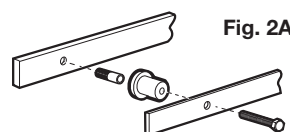

Figure 2A
Drill pilot hole. Insert lag bolt (X) through the first track hole, then place the track spacer (S) through the bolt on back of the track. Install the lag bolt with ½" socket ratchet. Do not tighten fully. Swing the track up and use the level to ensure the track is straight. Mark the remaining holes in the track. Drill remaining pilot holes. At the other end of the track from where you installed your first bolt, slide the stopper (T) onto the track that is for the side where the door will be in the closed position. Push it towards the middle of the track. Install a bolt and spacer at this end of the track. Slide the stopper to the other end of the track so it is between the first and second holes in the track. Install the remaining bolts and spacers. Go back and full tighten the first bolt. Slide the remaining stopper onto the other end of the track. Do not set either stopper at this point. **Refer to Figures 2A, 2B & 2C.**